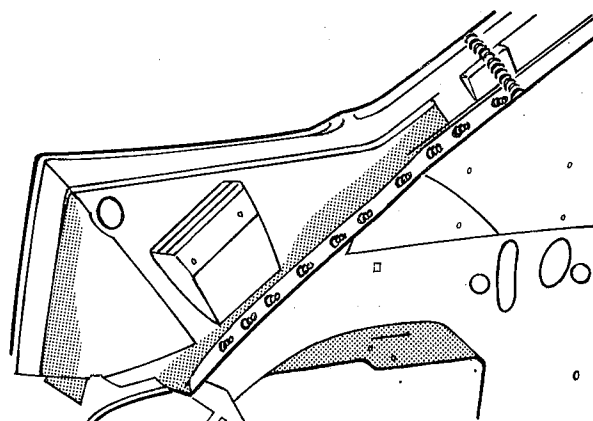

fig. 158
6. Soldar a ponto as abas da canaleta com as do painel (fig. 158)